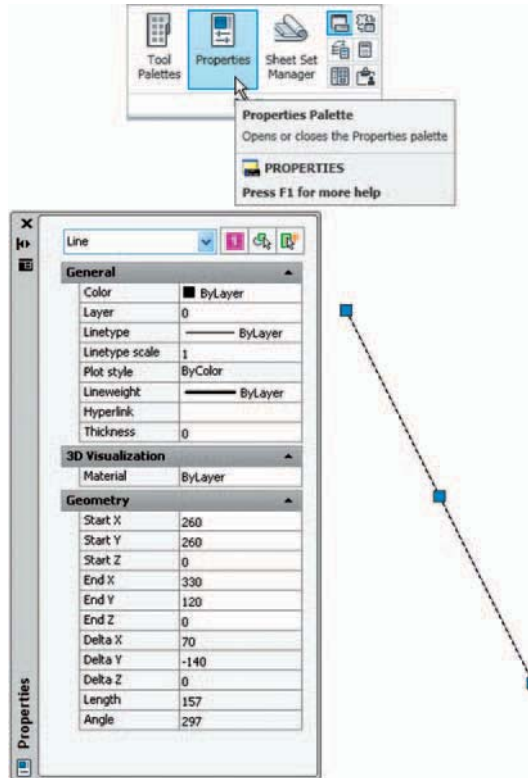

Fig. 1.12 The Properties palette
- **Properties** palette: Fig. 1.12 shows the **Properties** palette, called from the **View/Palettes** panel, in which the general and geometrical features of a selected line are shown. The line can be changed by the *entering* of new figures in parts of the palette.